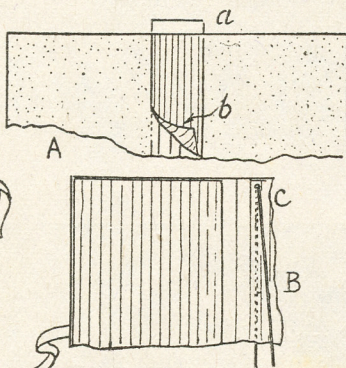

Fig. 2—Details of spine and threading
This should, for choice, match the outside covering, but is not imperative at all. Cut each piece to within a ¼in. of the front, and top and bottom edges, and wide enough to overlap the covering over the middle joint by ½in. Diagram Fig. 2 (B) shows this. Paste the inside covers and lay carefully in position.